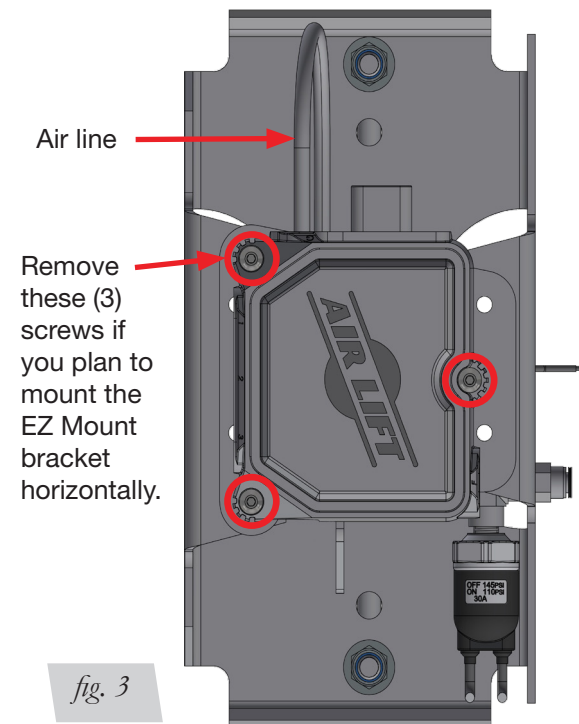

fig. 3
1. If you plan to mount the EZ Mount bracket vertically (Fig. 3), skip to the Preparing the Tank section of this installation guide.
3. Remove the air line that attaches between the elbow fitting and the manifold (Fig. 3).
4. Remove the (3) screws mounting the manifold to the bracket (Fig. 3 - circled in red).